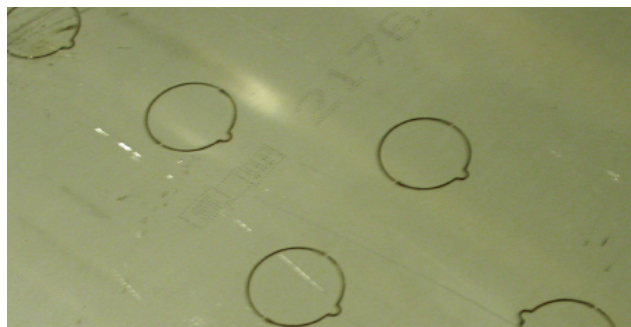

Fig. 6.13
- The same products are often used for several applications. For example, a switch cabinet in which different components can be placed. Depending on the components in the switch cabinet, a number of openings are required. In this case, push out sheet metal parts by hand. The laser leaves little tabs that hold the slug inside the hole. The slug can be pushed out by hand. (Fig. 6.13)